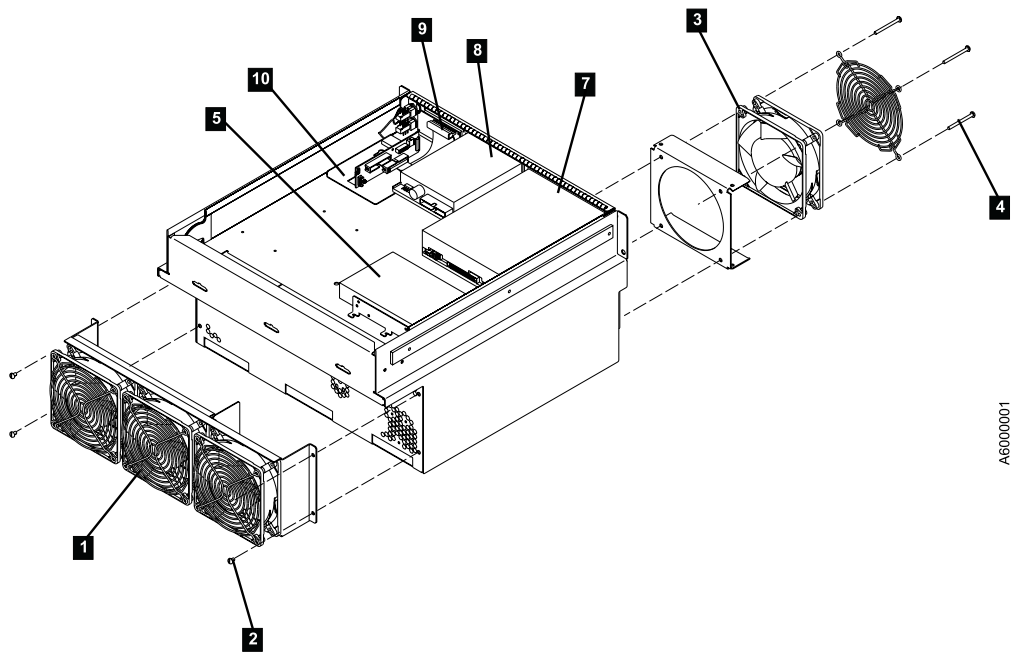

Figure 83. A60 Controller Top View
- \_\_\_ Step 6. Unplug both cables at rear of Hard disk drive assembly. Figure 83 on page 322 **5**
- \_\_\_ Step 1. Slide new Hard Disk Drive assembly towards the left of the chassis until it is in position, refer to Figure 83 on page 322 **5**